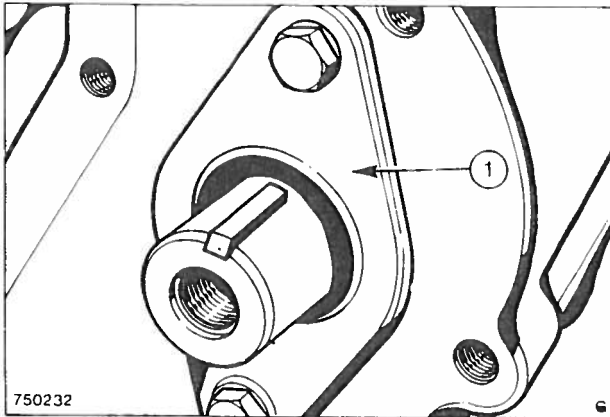

Fig. 25 Refitting camshaft thrust plate
5. Check the camshaft thrust plate for signs of wear, or scoring. The opportunity should be taken here to fit the latest type of thrust plate, which has two 6,0 mm (0,24 in) holes drilled on a 56,0 mm (2,21 in) pitch circle diameter (PCD), if this is not already fitted, tightening the bolts to their specified torque – see Fig. 25.